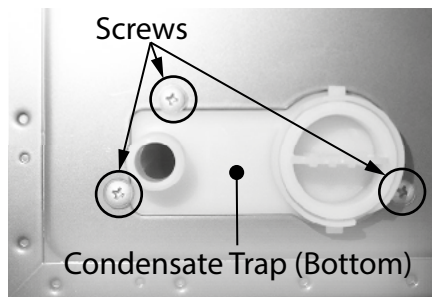

Figure 7 - Location of condensate trap screws.
- 21 Locate the three (3) screws at the back left corner of the cabinet that secure the condensate trap. See Figure 7. Use a Phillips screwdriver to remove the screws. Place screws aside in a safe place for reinstallation.